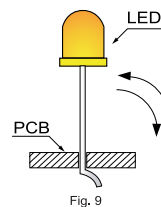

Fig. 9
- Do not bend the leads more than twice. (Fig. 9)